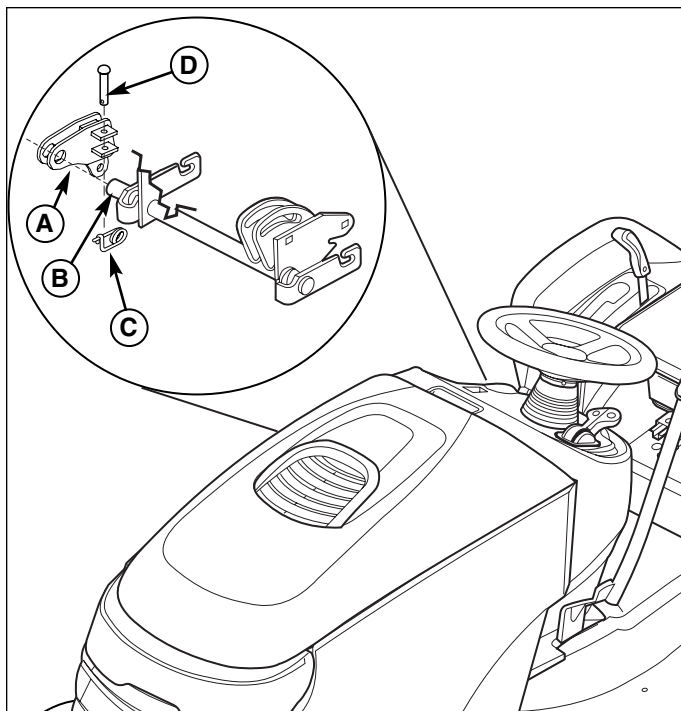

Figure 12. Install Lift Lever
1. Slide the lift lever (A, Figure 12) onto the end of the tractor lift shaft (B) under the right side footrest.
2. Use the tabs on the lift lever (A) to capture the tractor lift arm. Secure in place with a clevis pin (D) and safety clip (C).